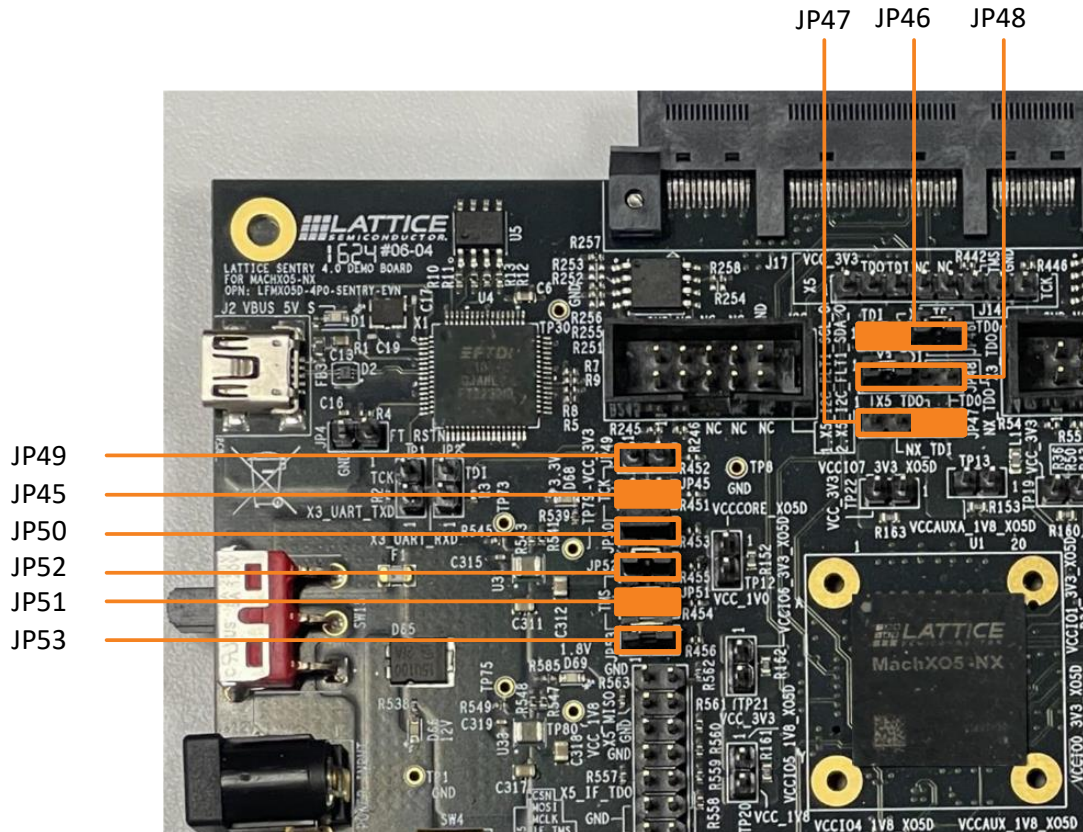

Figure 5.14. MachXO5-NX Configuration Jumpers
1. Connect the jumpers, as shown in Table 5.2 and Figure 5.14.